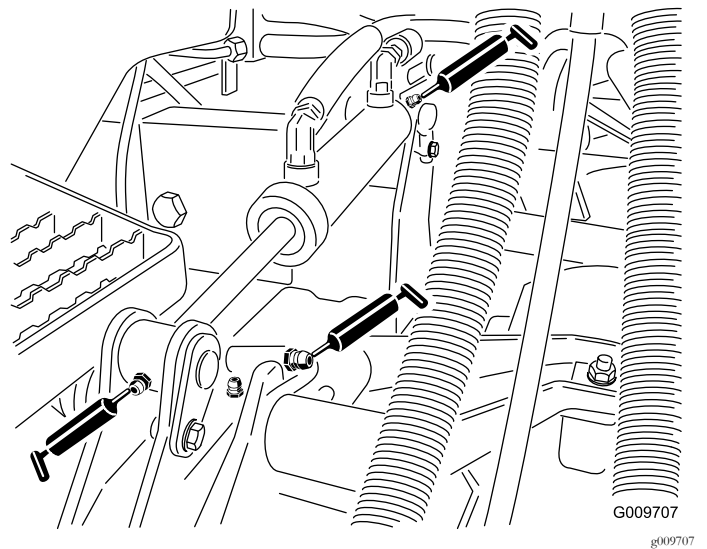

Figure 36
- Lift-arm bushings (1 per deck) as shown in Figure 36
- Lift-cylinder bushings (2 per deck) as shown in Figure 36